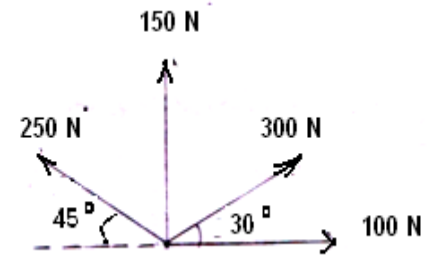

Fig. 3
Q.4	(a) Differentiate between Resultant & equilibrant (b) Calculate the magnitude and direction of the resultant of the coplanar concurrent forces shown in fig. 3 .